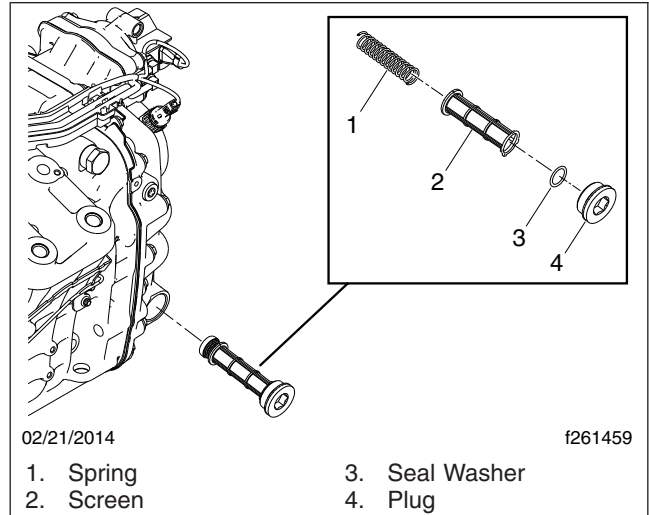

Fig. 2, Oil Pump Screen, Detroit Automated Transmissions
4. Remove the oil pump screen and check it for debris. See Fig. 2. Clean the screen, if needed,